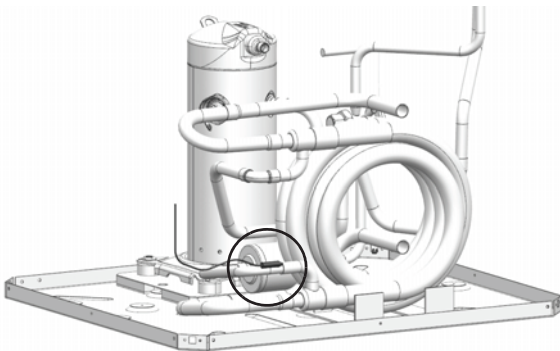

Fig. 33 — Water-Side Freeze Protection Sensor
- Evaporator freeze protection sensor, mounted between the thermal expansion device and the evaporator, monitors refrigerant temperature between the evaporator coil and thermal expansion valve. If temperature drops below or remains at freeze limit trip for 30 seconds, the controller will shut down the compressor and enter into a soft lockout condition. The default freeze limit trip is 30°F. (See Fig. 33 and 34.)